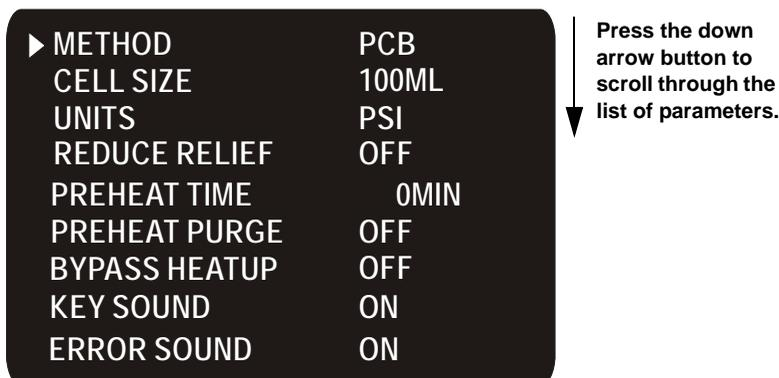

Figure B-8. Setup Screen (All Parameters Shown)
1. On the **MENU** screen, press an arrow button to move the cursor to **SETUP**, and then press **ENTER**. The **SETUP** screen appears (see Figure B-8). All parameters do not fit on one screen. To view additional parameters, press the down arrow button.